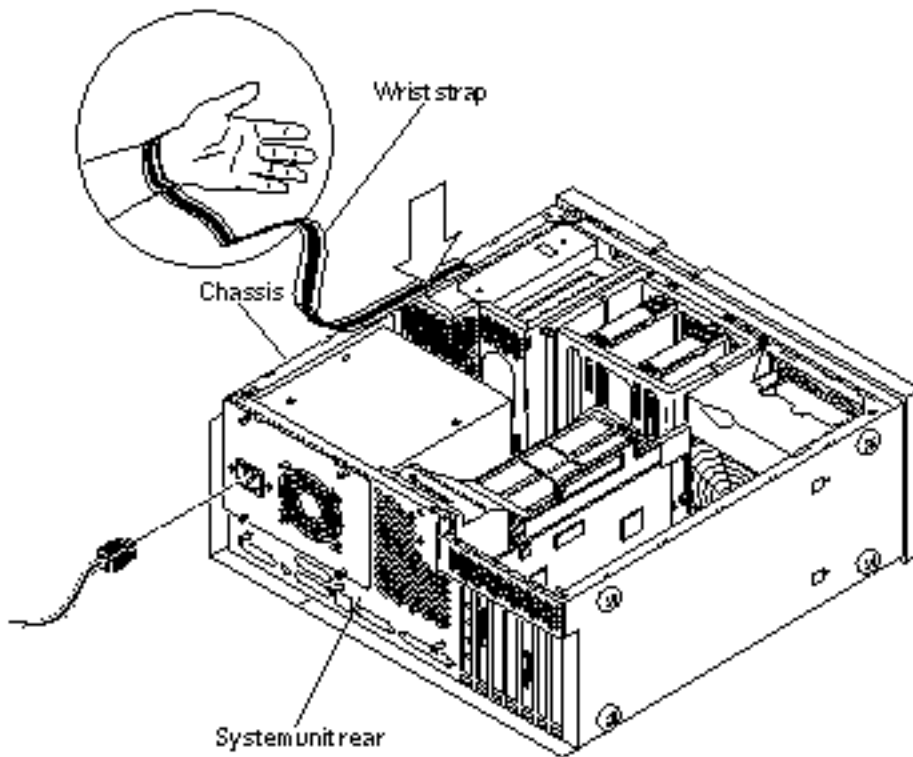

Figure 1-4 Attaching the Wrist Strap to the Chassis
4. Attach the wrist strap (Figure 1-4):